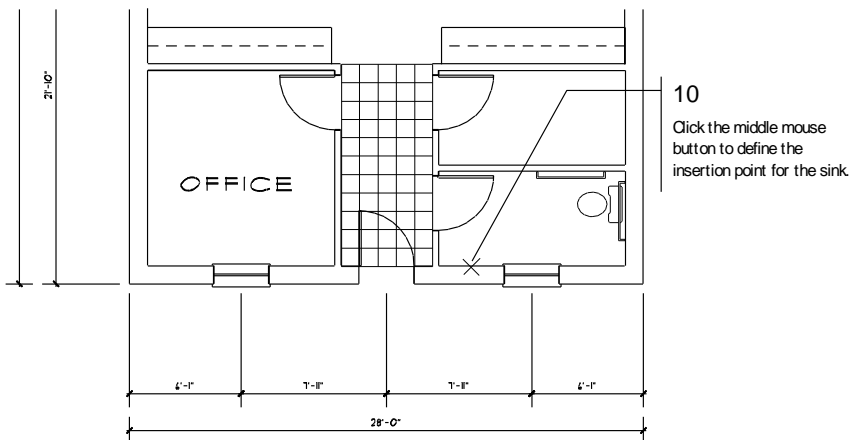

Figure 4.22: Placing the sink in your drawing.
10. Position the cursor at the center point, between the window and hallway wall, as shown in Figure 4.22. Click the middle mouse button.